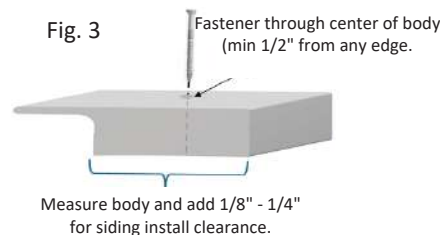

Fig. 3 Fastener through center of body (min 1/2" from any edge).
2. Measure the body of the trim and add 1/8" - 1/4" to ensure clearance between the top of the siding panel and the base of the trim pocket. (Fig. 3).
- a. Finish nail, decking screw or Cortex screw (with matching plug) into the center of the main body of the trim, no less than 1/2" from any edge or end (Fig. 3).